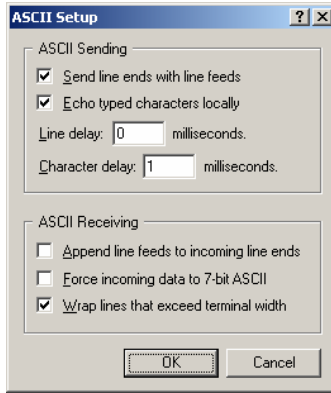

Figure 11 ASCII setup
13. Click the ASCII setup button. Figure 11 appears.
14. Ensure the values are as set out in Figure 11. Check the 2 top fields, and change **Character delay** to 1.